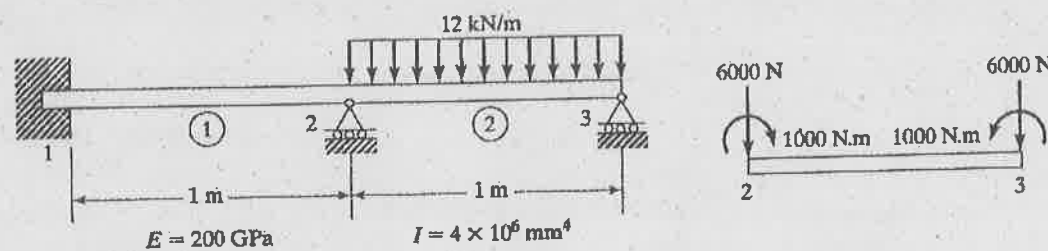

Fig. 1
12. (a) The beam is loaded as shown in Fig. 1; determine